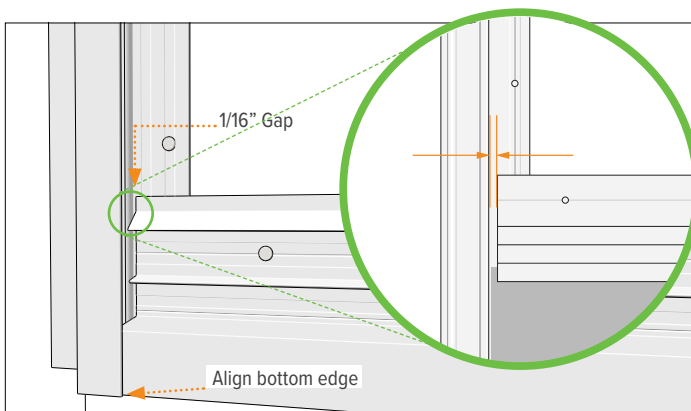

Figure 23.2
2. Place the EZ.48 starter trim over top of the nailing flange of the vertical outside corner, leaving a 1/16" gap from the EZ.Bump®. Align the bottom edge of the horizontal trim with the bottom of the vertical outside corner. Level and fasten. (Figure 23.2).